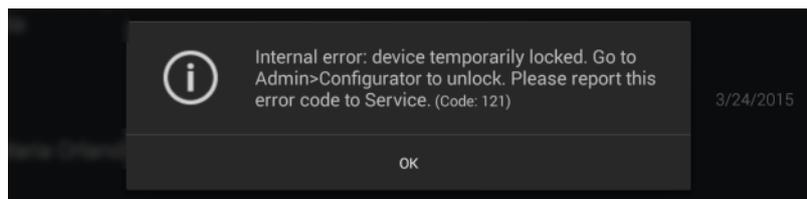

Fig. 6 – Example of error message
- In case an unexpected hardware condition occurs during use, an error message may appear (see for example Fig. 6) and the device may become temporarily locked. It is possible to reset this condition by letting the device re-initialize: refer to §15.2 for the complete procedure. If the error persists, please contact an Authorized Service Center.